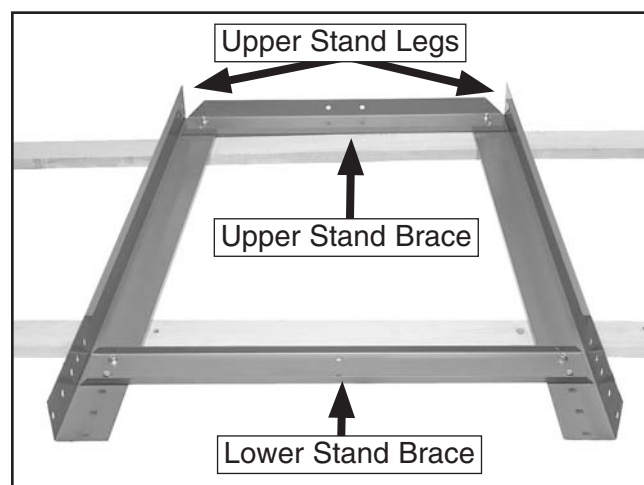

Figure 13. One side of upper stand assembled.
1. Use (8) $\frac{3}{8}$ "-16 x $\frac{3}{4}$ " hex bolts, (16) $\frac{3}{8}$ " flat washers, and (8) $\frac{3}{8}$ "-16 lock nuts to connect 2 upper stand legs, 1 upper stand brace, and 1 lower stand brace —*only finger tighten the fasteners* (see Figure 13).